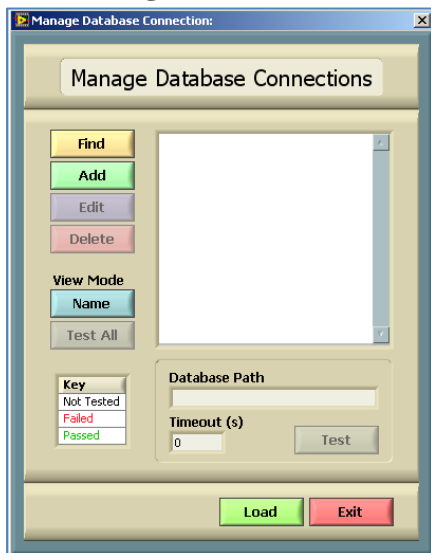

Figure 1.2-2: The **Manage Database Connections** Window
2. The **Manage Database Connections** window appears. (Figure 1.2-2)